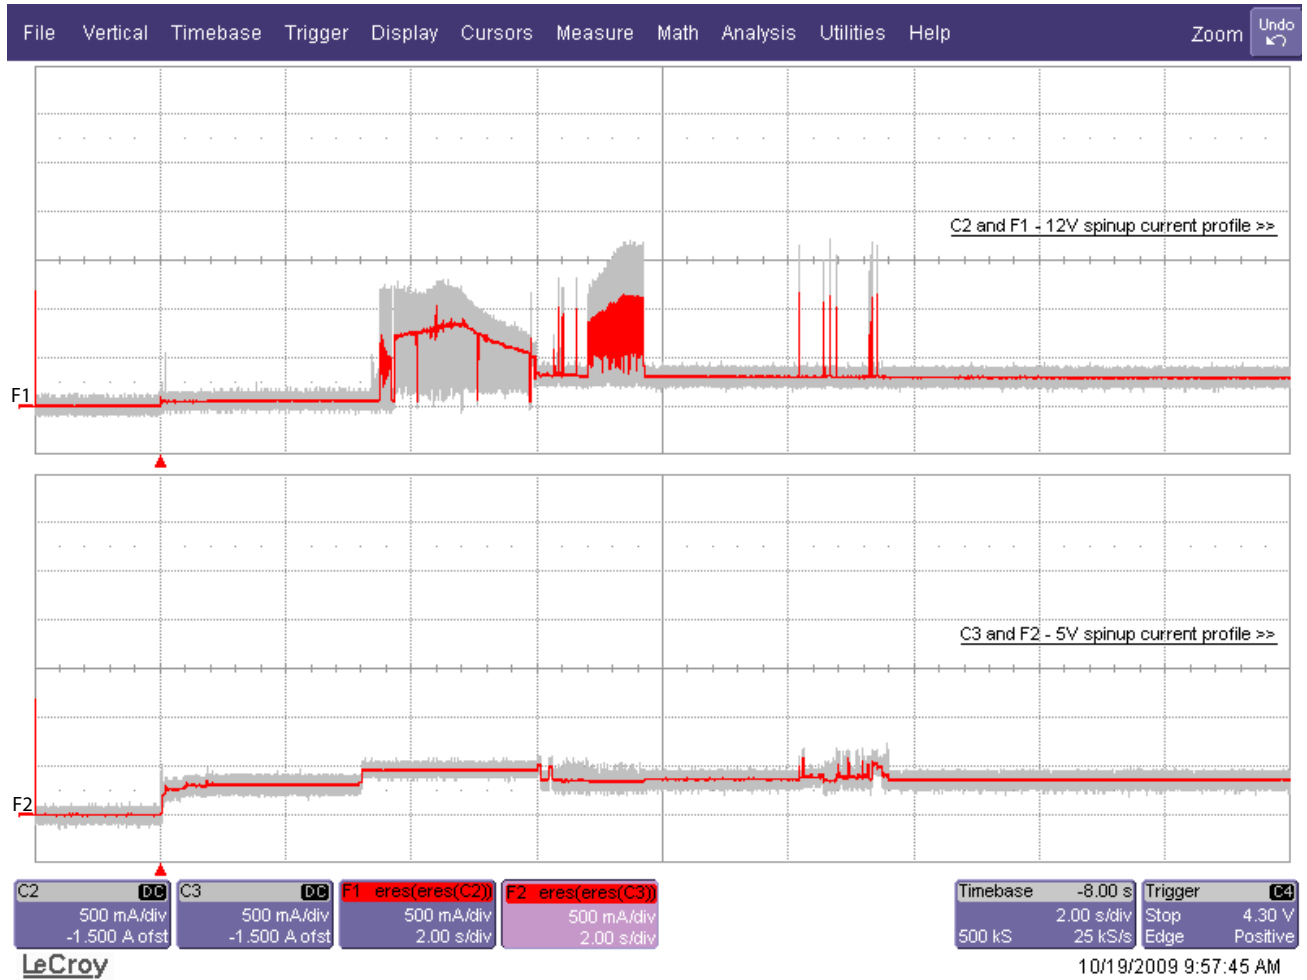

Figure 17. Current profiles for 450GB models
- [4] See +12V current profile in Figure 17.